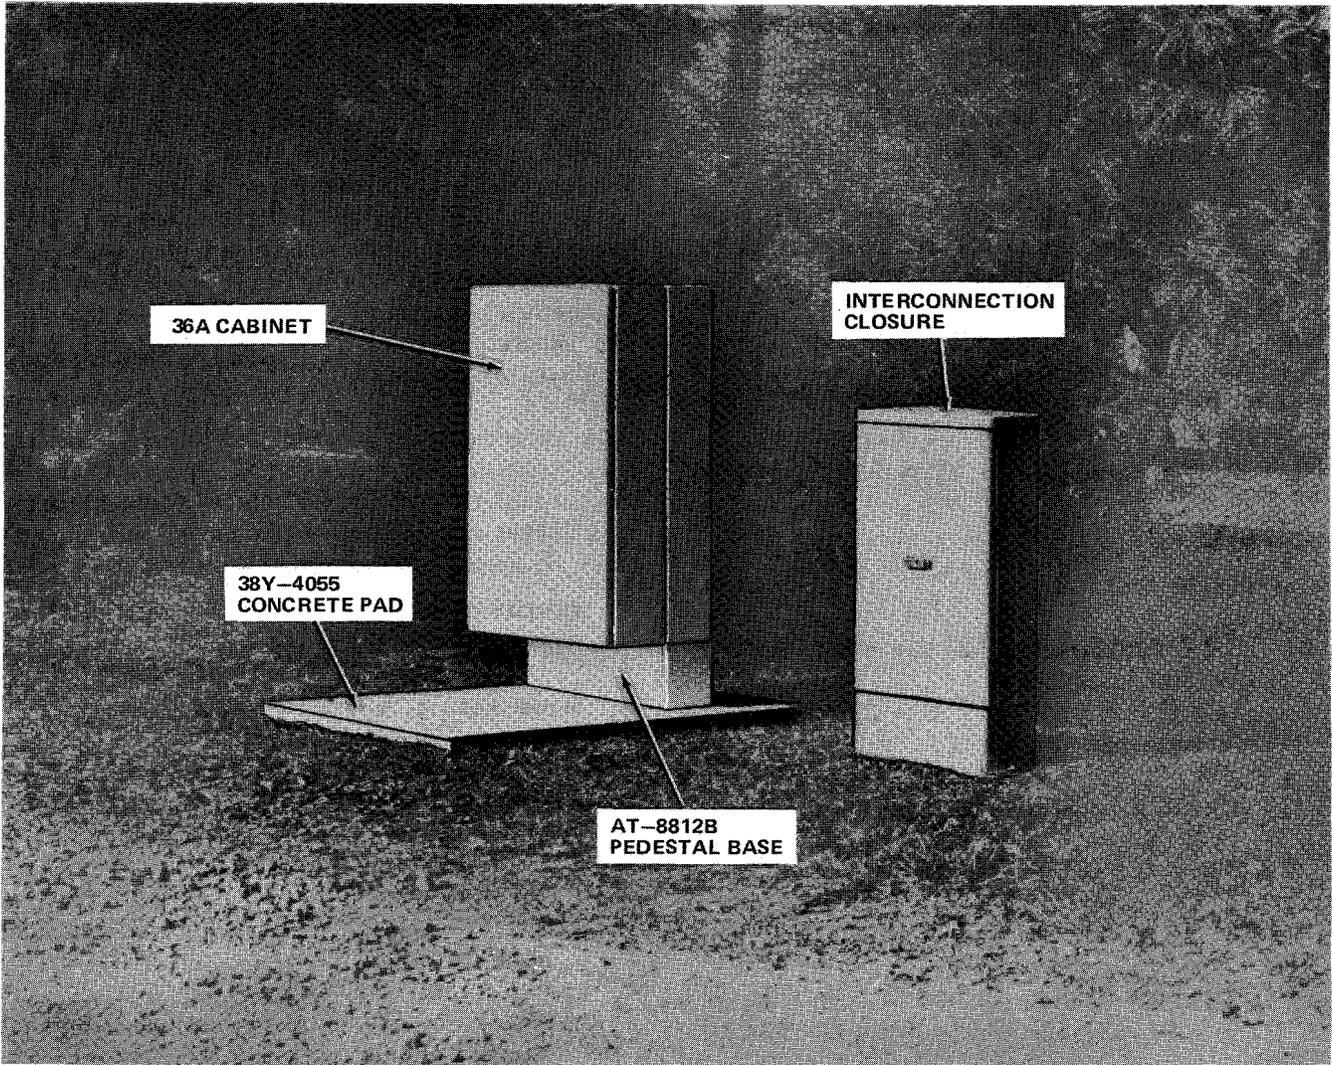
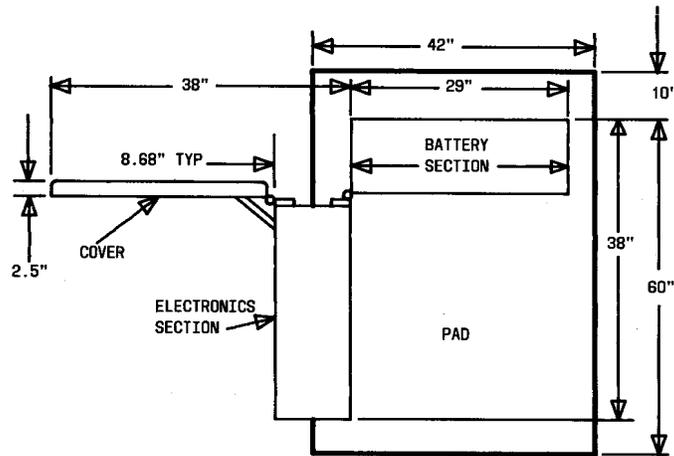
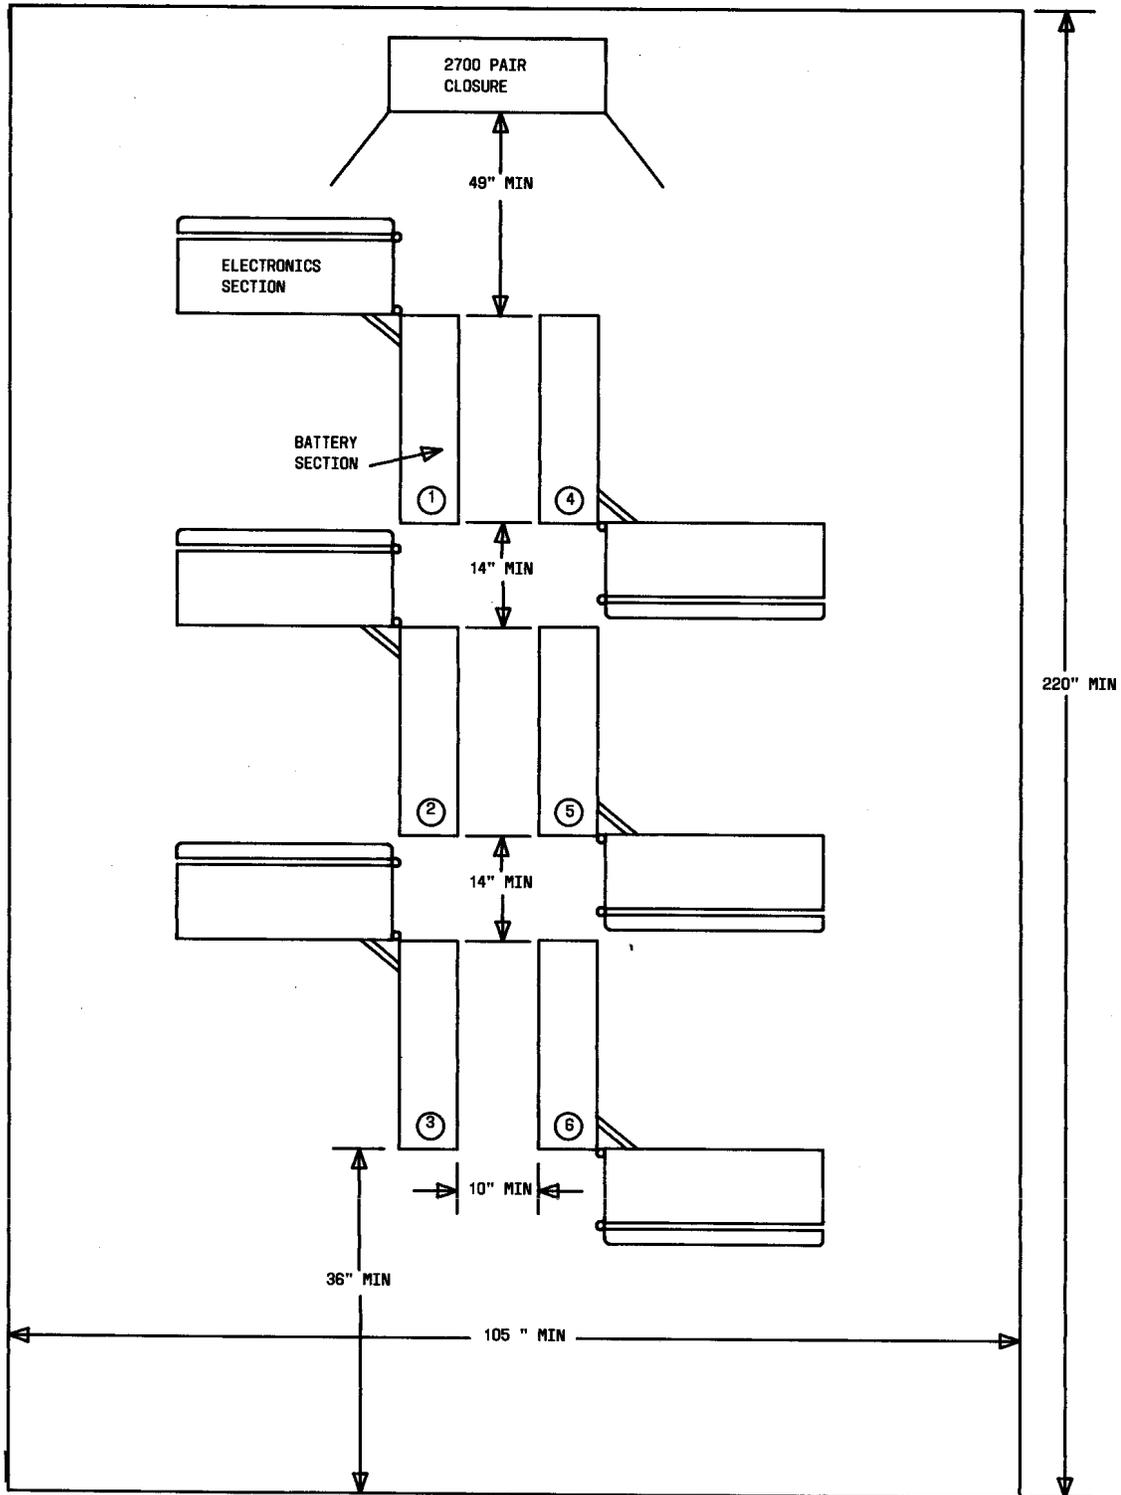

Fig. 2—Pedestal Mounted 36A Cabinet
Fig. 3—Dimensions of an Open 36A Cabinet
Fig. 4—Minimum Distance Between 36A Cabinet
3.03 A 36A cabinet installation using the AT-8812B pedestal and 38-Y-4055 concrete pad is shown in Fig. 2. Dimensions of an open 36A cabinet are shown in Fig. 3, and the minimum distances between 36A cabinets are shown in Fig. 4.